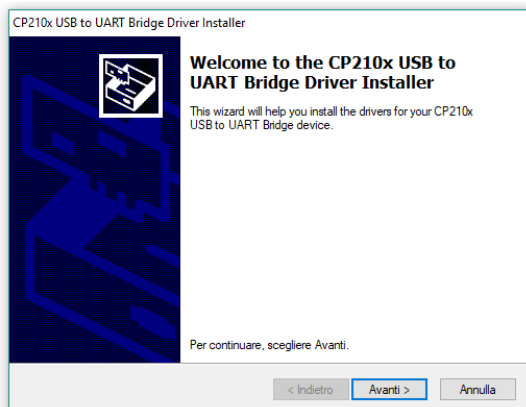

Fig. 2.2-5 Driver installation
- Click **Next** (Fig.2.2-5) to install the driver;